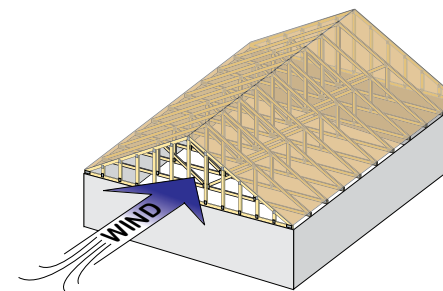

Figure 4. Building designers should specify how gable end frames are to be braced to transfer lateral loads such as wind.
Gable end bracing is another area that is often overlooked. Truss suppliers often supply gable end frames as a convenience to the contractor. Like trusses on the building, the truss designer designs the gable end frame for the loads in the plane of the truss. Loads applied to the gable frame laterally, such as wind and seismic loads, need to be resisted with CLRs and diagonal bracing (see Figure 4). Again, the building designer is responsible for designing the building stability bracing, including the gable end bracing. For more detailed explanations of these concepts, see all of the BCSI documents at www.sbcindustry.com/bcsi.php. **SBC**
- Wind and seismic loads applied to the gable frame laterally need to be resisted as shown in Figure 4.